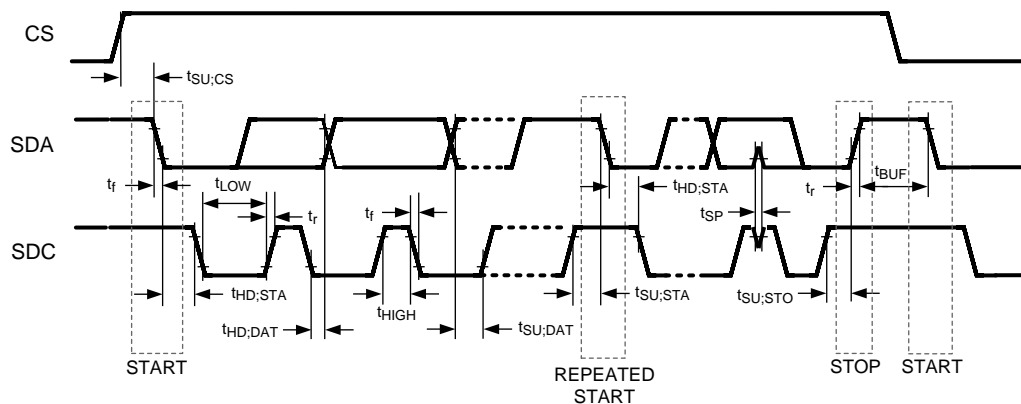

Figure 6. SMBus Timing Parameters
Serial Bus Interface Timing Specifications – (See <a href="#">Figure 6</a> ) (4) (5)